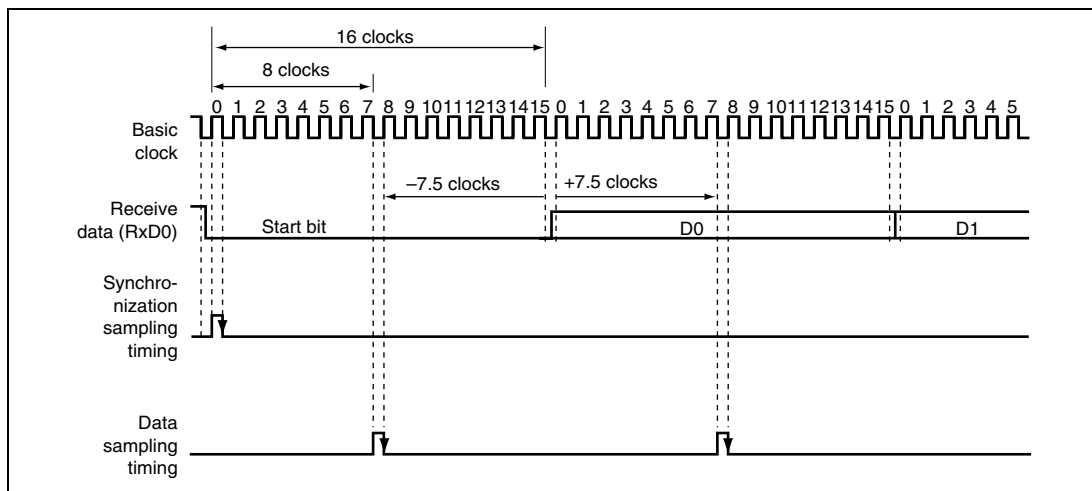

**Figure 14.24 Receive Data Sampling Timing in Asynchronous Mode**
**Receive Data Sampling Timing and Receive Margin in the Asynchronous Mode:** In the asynchronous mode, the SCI operates on a base clock of 16 times the transfer rate frequency. In receiving, the SCI synchronizes internally with the falling edge of the start bit, which it samples on the base clock. Receive data is latched on the rising edge of the eighth base clock pulse (figure 14.24).